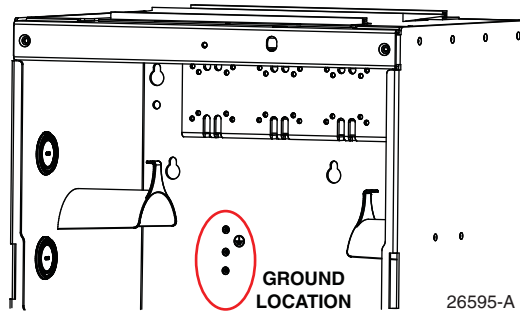

Figure 6. Grounding the Splice Cabinet
5. Ground the splice cabinet in the location shown in Figure 6.